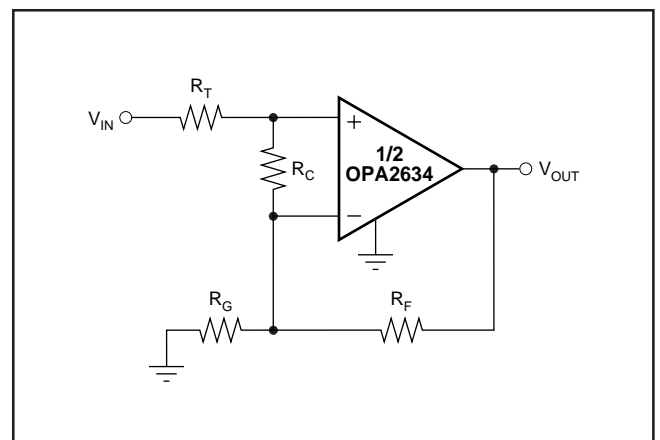

FIGURE 6. Compensated Non-Inverting Amplifier.
Figure 6 shows a non-inverting amplifier that reduces peaking at low gains. The resistor R_C compensates the OPA2634 to have higher Noise Gain (NG), which reduces the AC response peaking (typically 5dB at $G = +1$ without R_C) without changing the DC gain. V_{IN} needs to be a low impedance source, such as an op amp. The resistor values are low to reduce noise. Using both R_T and R_F helps minimize the impact of parasitic impedances.
A good rule of thumb is to target the parallel combination of R_F and R_G (Figure 6) to be less than approximately 400Ω . The combined impedance $R_F \parallel R_G$ interacts with the inverting input capacitance, placing an additional pole in the feedback network and thus, a zero in the forward response. Assuming a $3pF$ total parasitic on the inverting node, holding $R_F \parallel R_G < 400\Omega$ will keep this pole above $130MHz$. By itself, this constraint implies that the feedback resistor (R_F) can increase to several $k\Omega$ at high gains. This is acceptable as long as the pole formed by R_F and any parasitic capacitance appearing in parallel is kept out of the frequency range of interest.
The criterion for setting this R_S resistor is a maximum bandwidth, flat frequency response at the load. For a gain of +2, the frequency response at the output pin is already slightly peaked without the capacitive load, requiring relatively high values of R_S to flatten the response at the load. Increasing the noise gain will also reduce the peaking, reducing the required R_S value (see Figure 6).